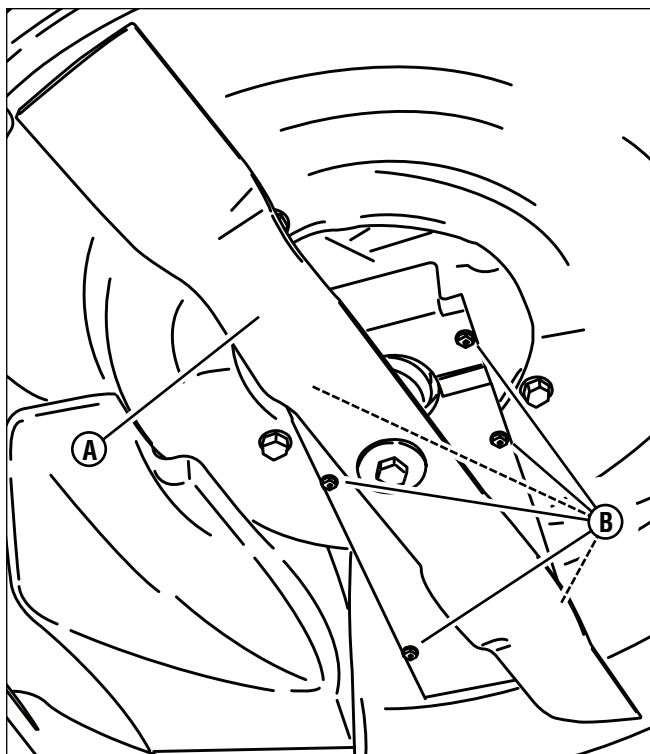

Figure 21: Removing the blade and belt cover
2. Remove the blade (**A, Figure 21**). Refer to the Section entitled “Blade Sharpening”.